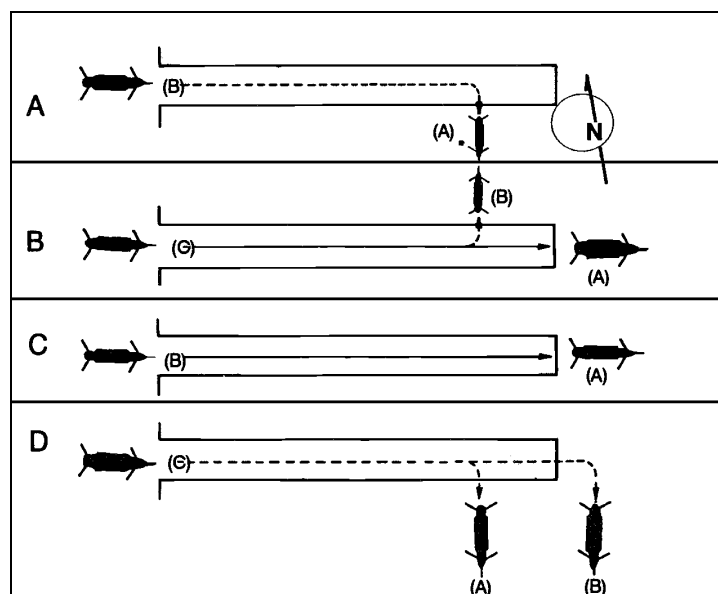

Figure 3-4. Minimum separation requirements.
During normal operations, pathfinders ensure pilots follow minimum separation criteria. Combat situations may dictate less separation (Figure 3-4, page 3-12).
- a. **Arriving Aircraft.** The preceding aircraft (1) taxis off the landing strip before the arriving aircraft (2) crosses the approach end on its final glide (A, Figure 3-4, page 3-12).
- b. **Departing Aircraft.** The preceding aircraft either crosses (1) the opposite end of the runway or turns away (2) from the projected path of the departing (3) aircraft before the latter begins its takeoff run (B, Figure 3-4, page 3-12).
- c. **Departing and Arriving Aircraft.** The departing aircraft (1) crosses the opposite end of the runway before the arriving aircraft (2) crosses the approach end on its final glide path (C, Figure 3-4, page 3-12).
- d. **Departing, Preceding, and Arriving Aircraft.** The preceding aircraft (1) and the arriving aircraft (2) both taxi off the runway before the departing aircraft (3) begins the takeoff run (D, Figure 3-4, page 3-12).